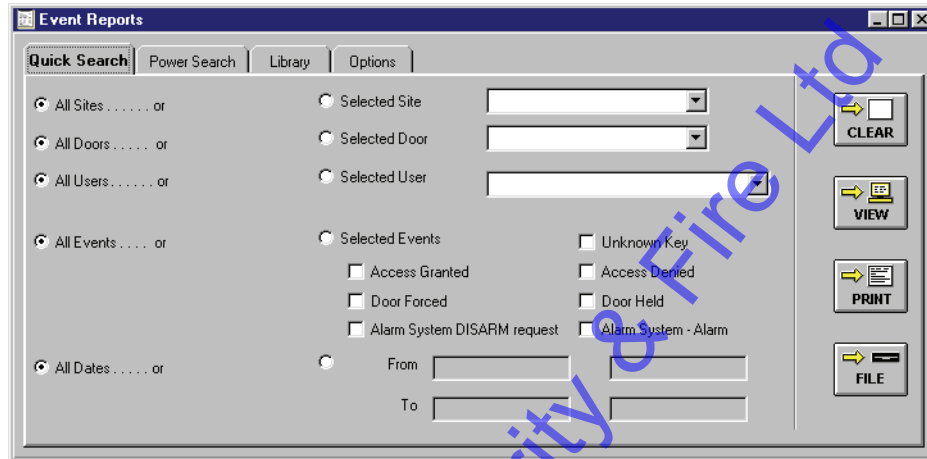

Figure 8-21: Quick Search, All Sites Radio Button
1. To select all sites, click on the **All Sites** radio button (the default value, see Figure 8-21).